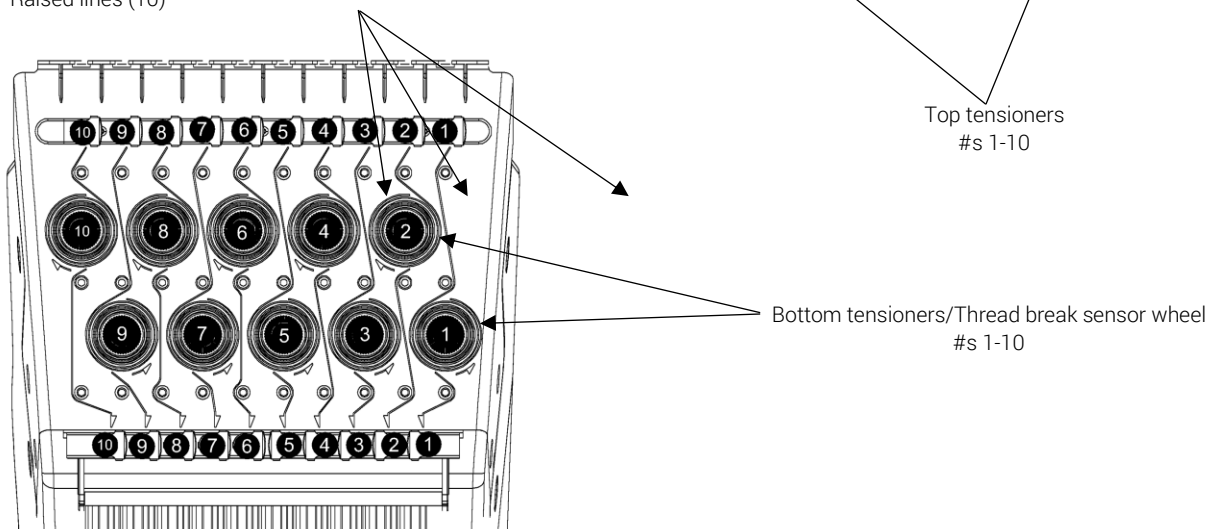

Figure 42
- Follow the threading route as shown in Figure 42.
16. Begin to follow the raised lines on the machine. To identify the raised lines, see Figure 42.